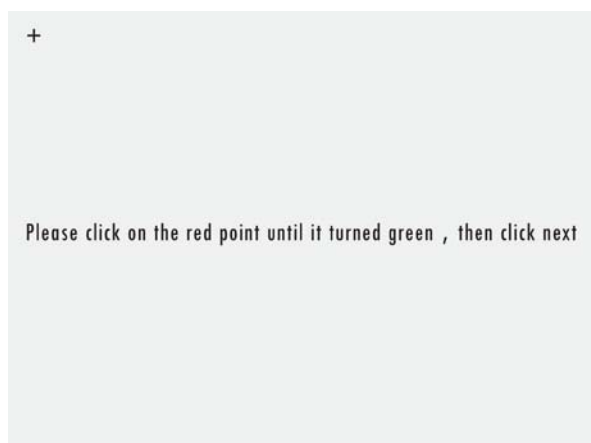

Fig 5-8 Screen Calibration
- **Screen Calibration** : Calibrate screen according to display , Enter calibration screen, click the small black cross one by one. (Fig 5-8).